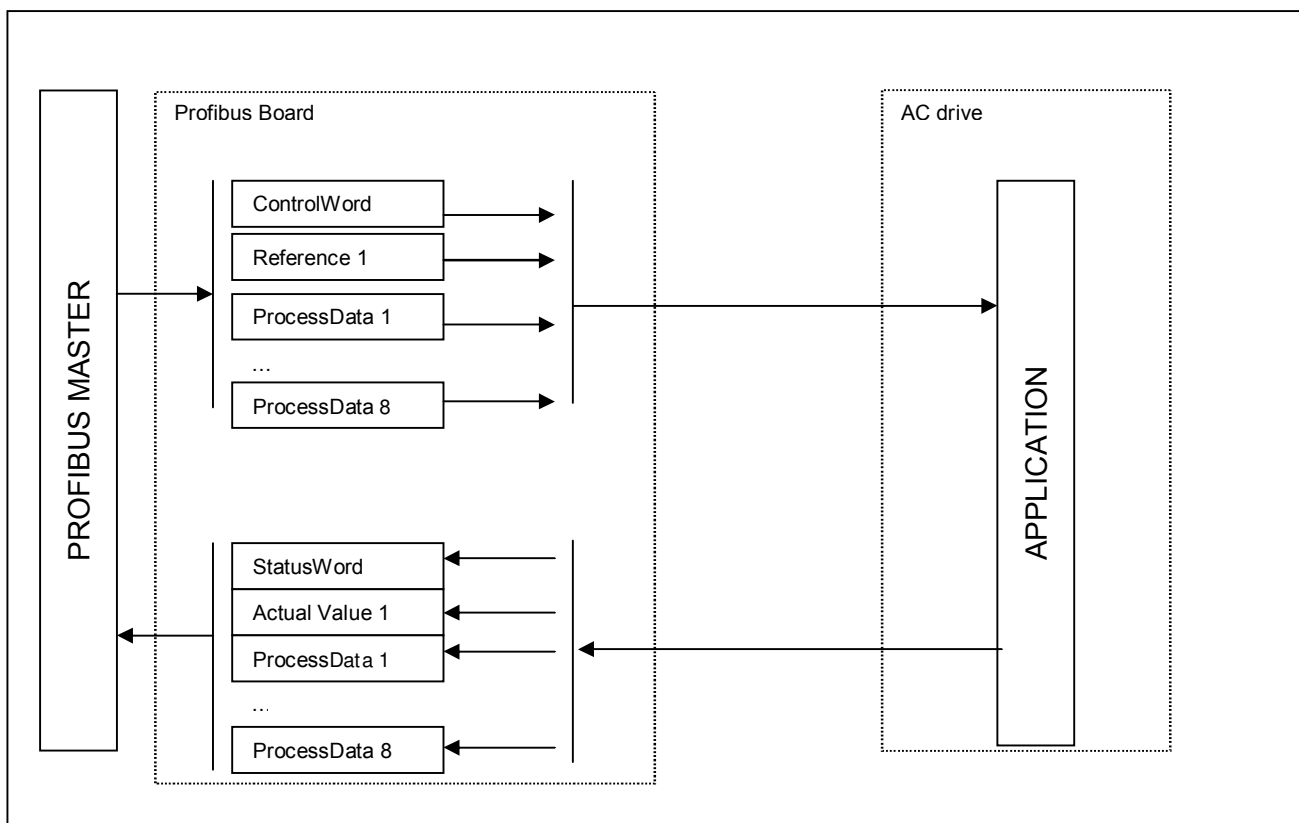

Figure 7-2. Control of the AC drive through Profibus
The use of process data depends on the application. In a typical situation the device is started and stopped via the ControlWord (CW) written by the Master and the Rotating speed is set with Reference (REF). Via PD1..PD8 the device can be given other reference values (e.g. Torque reference). With the help of the StatusWord (SW) read by the Master, the status of the device can be seen. Actual Value (ACT) and PD1..PD8 show the other actual values. See *Figure 7-2*.